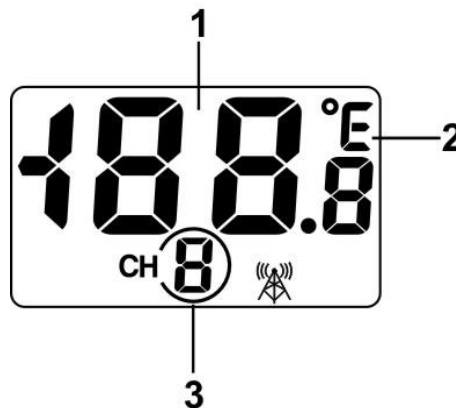

Figure 7
- (1) Open the battery compartment and (2) insert 4 x AAA batteries into the battery compartment, observing the correct battery polarity.
5. Verify the correct channel number (CH) and temperature units of measure ($^{\circ}\text{F}$ vs. $^{\circ}\text{C}$) are on the display, as shown in Figure 7.